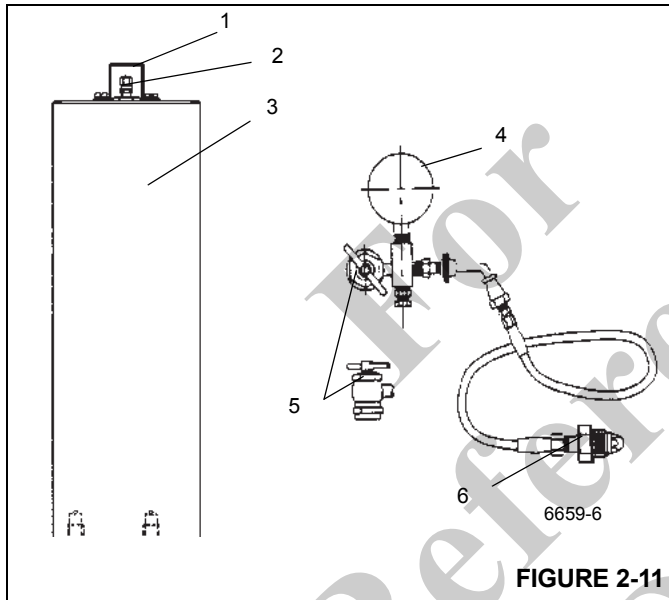

FIGURE 2-11
1. With the engine off, discharge all of the pressurized oil stored in the accumulators by depressing the service brake pedal on the cab floor several times. Remove the gas valve guard and cap on the accumulator Figure 2-11.
2. Before attaching the gas charging assembly Figure 2-11 onto the accumulator gas valve, back the gas chuck "T" handle all the way out (counterclockwise).
6. If the pressure is 62 bar +4/-0 (900 psi +50/-0), remove the charging valve assembly by turning the "T" handle all the way out on the gas chuck and then opening the bleed valve Figure 2-11.
- brake pedal on the cab floor several times. Remove the gas valve guard and gas valve cap on the accumulator Figure 2-11.
3. Before attaching the charging assembly Figure 2-11 to the accumulator gas valve, back the gas chuck "T" handle all the way out (counterclockwise).
7. If the pre-charge pressure is higher than 62 bar +4/-0 (900 psi +50/-0), close the nitrogen bottle valve and slowly open the bleed valve on the charging assembly Figure 2-11 until the pre-charge pressure is correct.